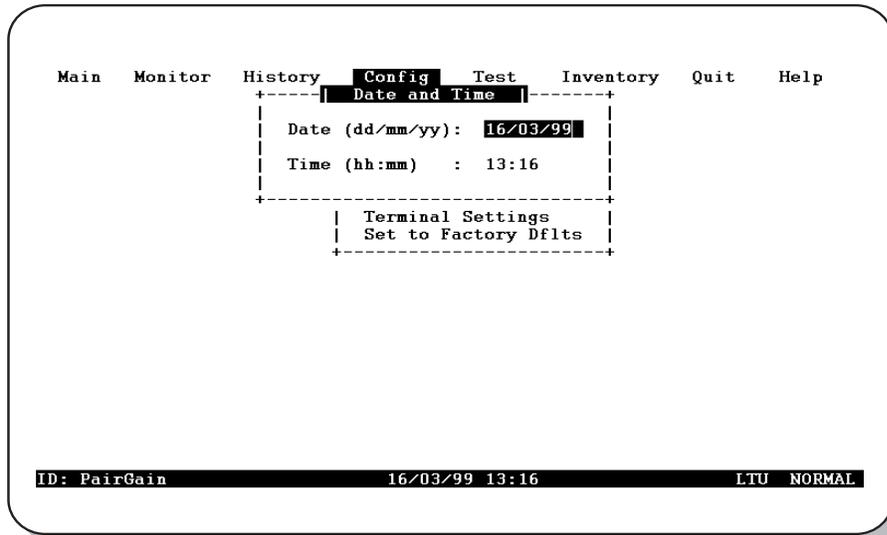

Figure 20. *Config Date and Time Menu*
- 1 Type **D** at the *Config* drop-down menu to display the *Config Date and Time* menu (Figure 20).